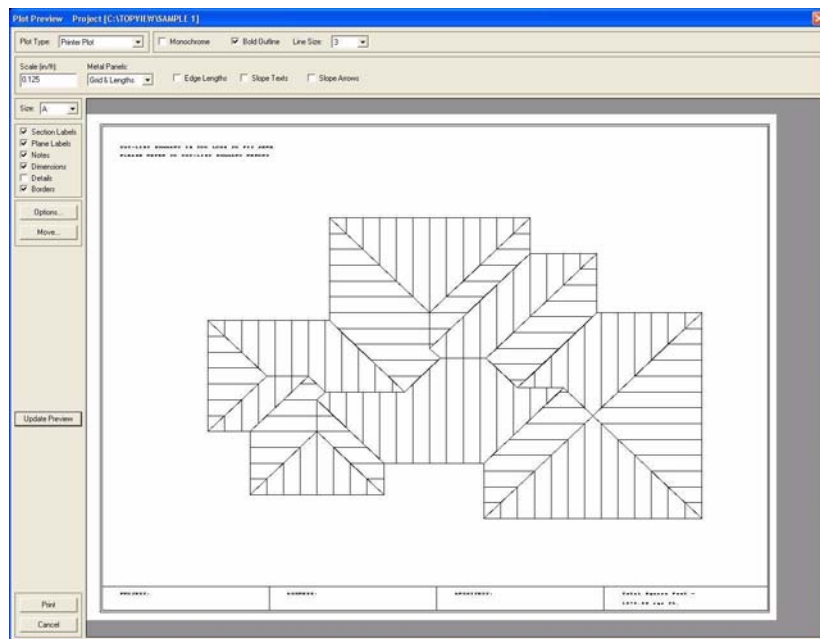

Figure 1-17 The Plot Preview window
The **Plot Preview** window appears with a copy of the project in the center of the page, as in Figure 1-17.
8. If you cannot see your entire roof on the screen (as in Figure 1-17), click **Move**, then click **Auto Center** to move your roof to the center of your screen.